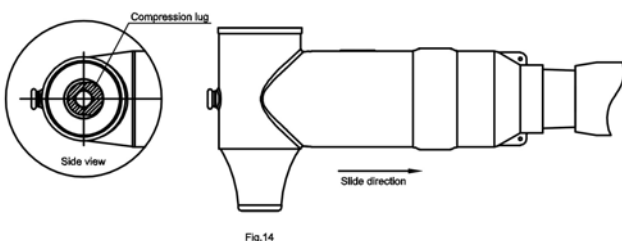

Fig.14
**Step 4.** Repeat Steps 1 to Step 9, prepare cable and install bolted companion coupling (rear) T-body connector. (See Fig. 14)